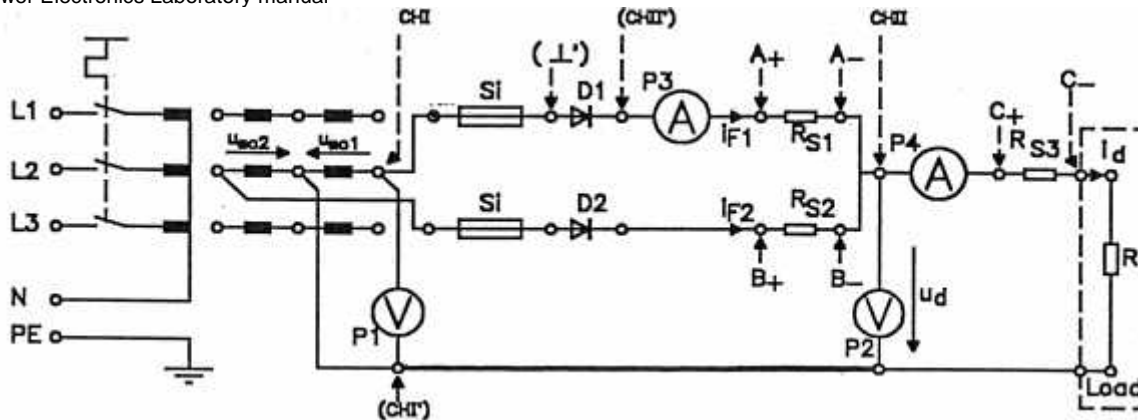

Figure 2. Two mid-point pulse rectifier with ohmic load of 33
A center tapped transformer is used for the circuit of Figure 2. Diode D1 conducts when the source voltage V_{s1} is positive and diode D2 conducts the current when the voltage V_{s2} is positive. The DC voltage is thus made up of consecutive sinusoidal half-waves.
- Connect the power circuit as shown in Figure 2, while using the supply voltage of 45V and a load resistance of 33 Ω , (three 100 Ω resistance connected in parallel)